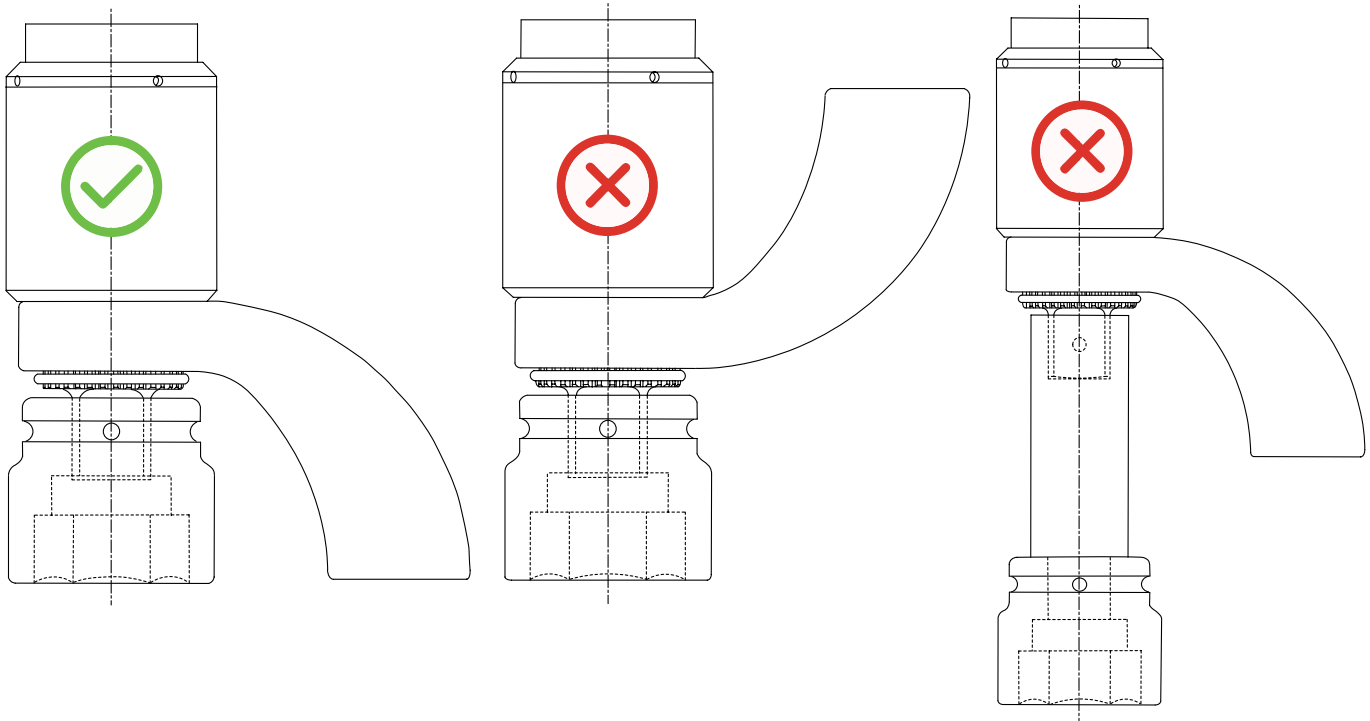

Fig. 2.3. Setting Up to Avoid a Collapsing Situation
- A collapsing torque can be caused by excessive extensions added to the socket, replacement of a reaction arm or inverse positioning of the reaction arm (see Fig. 2.3). Such a collapsing torque may lead to skewing of the tool and detachment of a socket and the entire tool with eventual damage of the reaction arm, driving square or gear transmission of the tool.